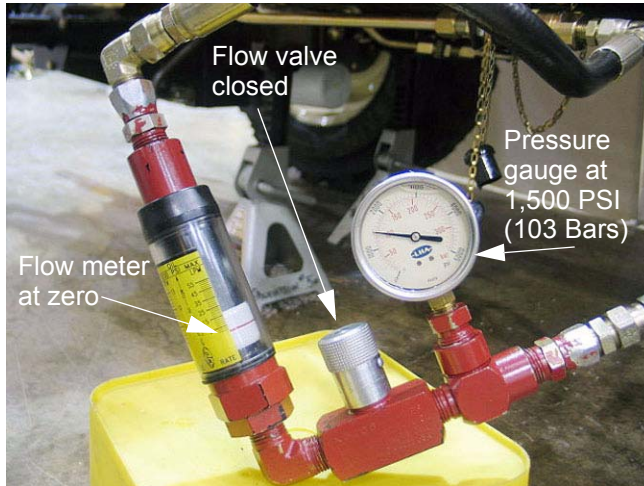

Figure 10.7
- 10.7. While holding the loader valve lever forward, close the flow valve on the test kit. Because there is a pressure relief feature in the loader valve, the pressure should rise to 1,500 PSI (103 Bars) and hold steady. See Figure 10.7.